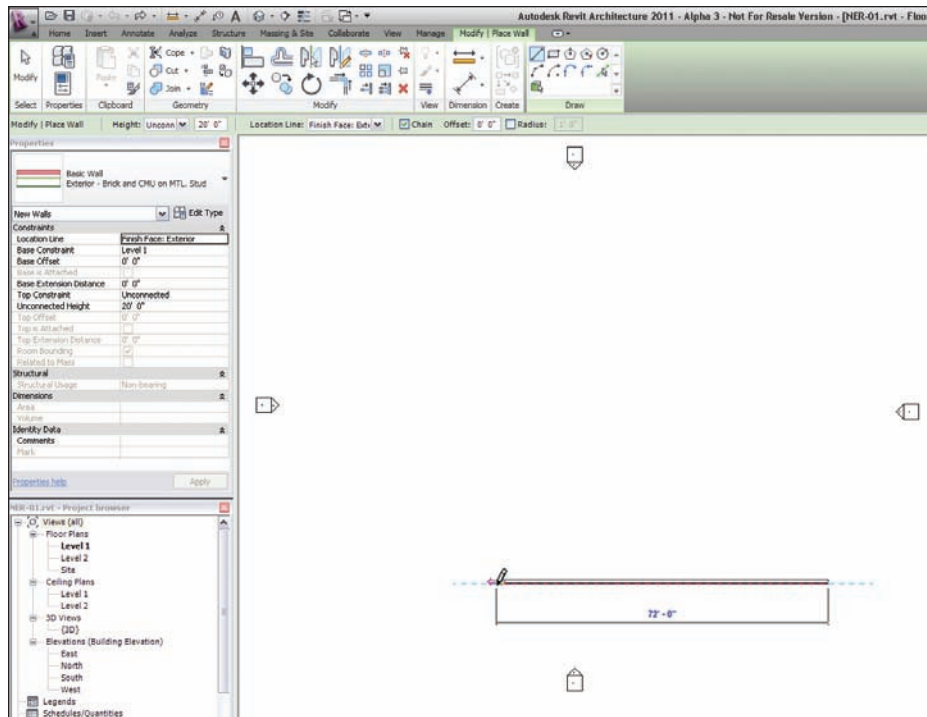

FIGURE 1.19 The procedure for drawing a wall in Revit Architecture
1. With the Wall command still running and the correct wall type selected, position your cursor in a similar location to the illustration in Figure 1.19. Now, pick a point in the view window.
3. Also notice the blue dimension extending from the first point to the last point. Although dimensions cannot be typed over, this type of dimension is a temporary dimension for you to use as you place items. Type 100, and press the Enter key. (Notice you did not need to type the foot mark (’). Revit thinks in terms of feet. The wall is now 100’ long (see Figure 1.19).